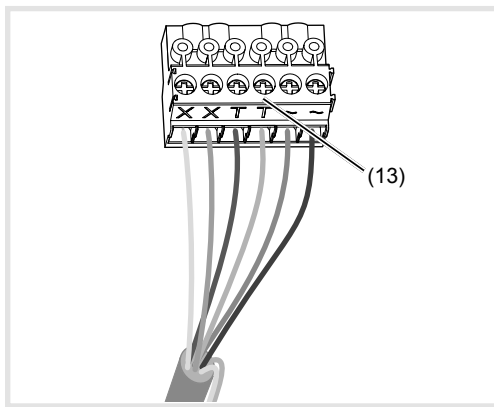

Figure 7: Wired connection terminal block
- Pull off connection terminal block (13) from the video insert.
- Connect the wire pair of the 2-wire bus cable to the terminals **XX** of the connection terminal block (Figure 7).
- Connect door release to the terminals **TT** of the connection terminal block (figure 7 and 8) if required.
- For call push-button backlighting and camera heating connect 12 V~ lead from the power transformer to the terminals **~** of the connection terminal block (Figure 7).